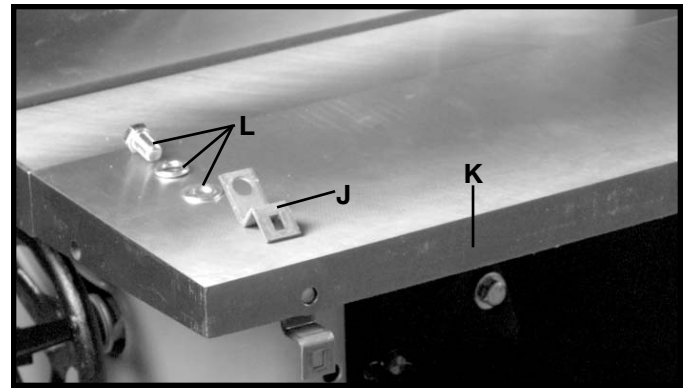
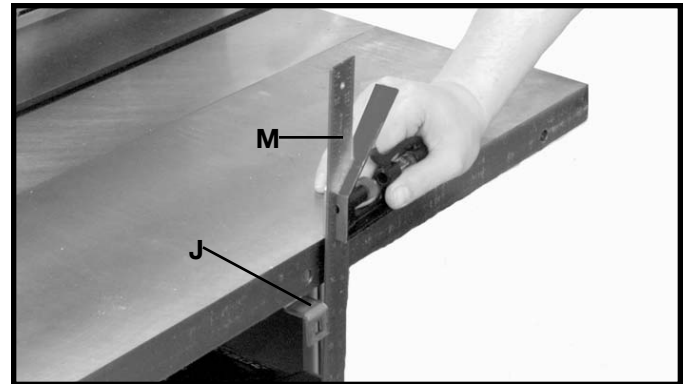

Fig. 40
Fig. 41
7. Assemble Z-brackets (J) Fig. 40, to the inside edge on right side of extension wing (K) as shown, using three 7/16-20x 3/4" hex head screws, lockwashers, and flat washers (L). Place lockwasher, washer, z-bracket onto screw and thread screw from the inside of the extension wing and tighten securely. **NOTE:** Using a square (M) Fig. 41, make certain that Z-brackets (J) are perpendicular to the saw table as shown. Also, lift upward on Z-brackets while tightening screws to eliminate any play.